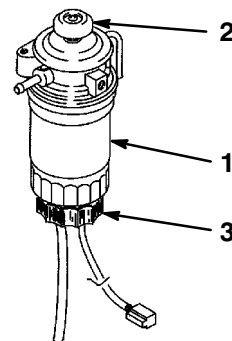

Figure 21
3. Open the drain plug on the fuel filter/water separator approximately one turn and drain any accumulated water. If necessary, operate the priming pump to drain the water (Fig. 21). Tighten the plug after draining.